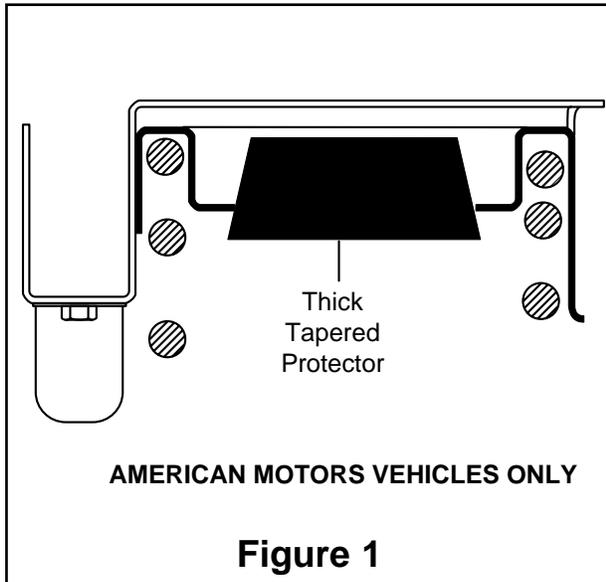

Figure 1
- A. Install the thick tapered protector into the hole in the upper spring seat (Figure 1).
If the vehicle's headlights are shining into the trees or the vehicle is leaning to one side, then it is not level (fig. 1). Raise the air pressure to correct either of these problems and level the vehicle.